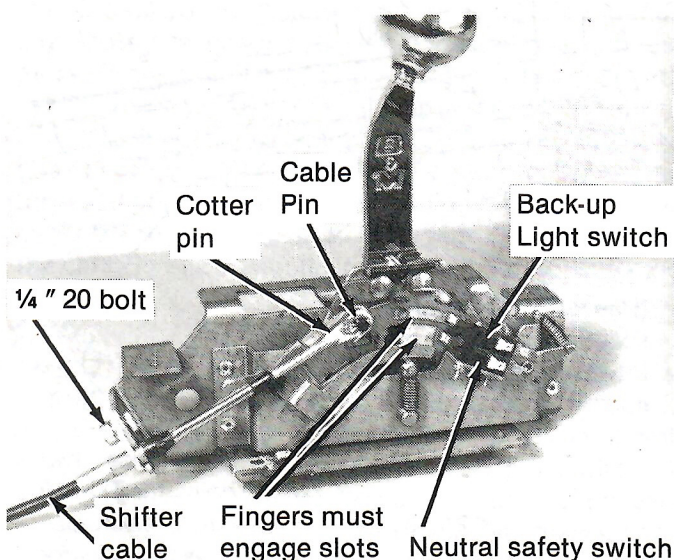

FIGURE 3
Step 6. Install cable onto shifter mechanism. One end of the cable has a threaded housing and a threaded cable end. This is the transmission end of the cable. The other end of the cable has a bracket and a flat cable end with a hole. Fit the cable housing groove into the U-shaped notch in the shifter mechanism and fasten the bracket with the 1/4"-20x1/2" bolt, lockwasher, and nut supplied with the shifter (See Fig. 3). Slip hole in flat end of cable over cable pin in shifter. Install cotter key to retain cable. Note: B&M shifters come with 5 ft. (80605) cable standard. Cables are also available in 2 ft. (80602), 4 ft. (80604), 8 ft. (80608), and 10 ft. (80610) lengths. Contact your B&M dealer.
Step 7. Install back-up light and neutral safety micro switches in place on shifter mechanism (See Fig. 3). Install two #4-40x1 1/4" screws through both switches and shifter. Install a lockwasher and nut on each screw and tighten snugly. Do not overtighten the nuts as you may crack the switches. Make sure switch fingers on micro switch properly engage operating slots. If necessary bend fingers up or down slightly to engage slots.